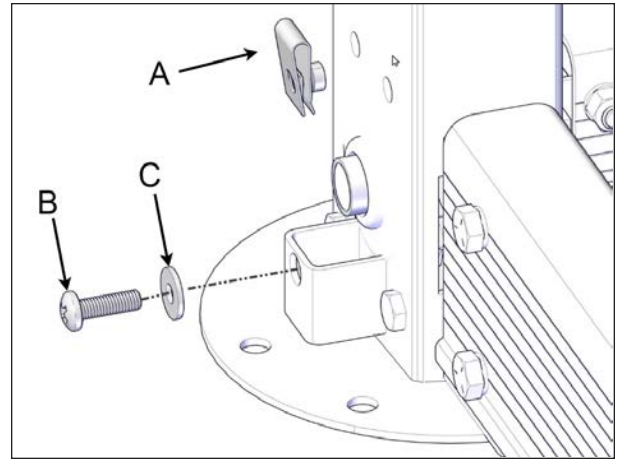

FIGURE 57: CLIP-ON BARREL NUT INSTALLATION
18. Install the clip-on barrel nuts at the bottom of the non-motor-side jack assemblies to hold the sleeves in the bottom. Use Phillips M6 x 20 mm screws and 1/4" nylon washers. Only the non-motor-side jack assemblies need clip-on barrel nuts to be installed see Figure 57.